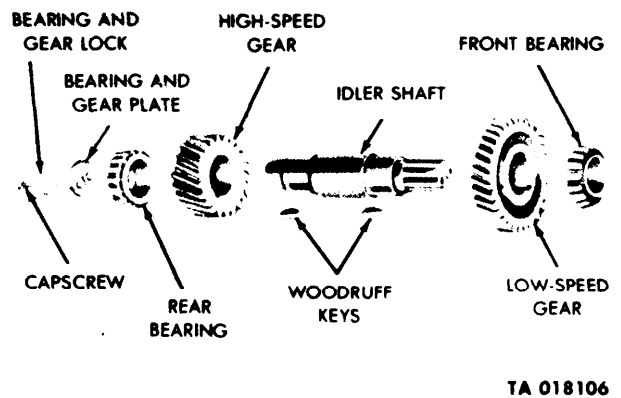

Figure 4-37. Idler Shaft Disassembly — Exploded View.
(1) Using a suitable tool, bend the rear bearing and gear locking plate ears away from capscrews and remove the two capscrews, locking plate, and the rear bearing gear-lock. (See fig. 4-37.)
(3) Place the idler shaft assembly in an arbor press with low-speed gear and front bearing up. (See fig. 4-37.) Place support bars beneath the low-speed gear. Press idler shaft low-speed gear and front bearing from the idler shaft. Remove the low-speed gear woodruff key from the idler shaft.
- h. Idler shaft assembly (fig. 4-37).